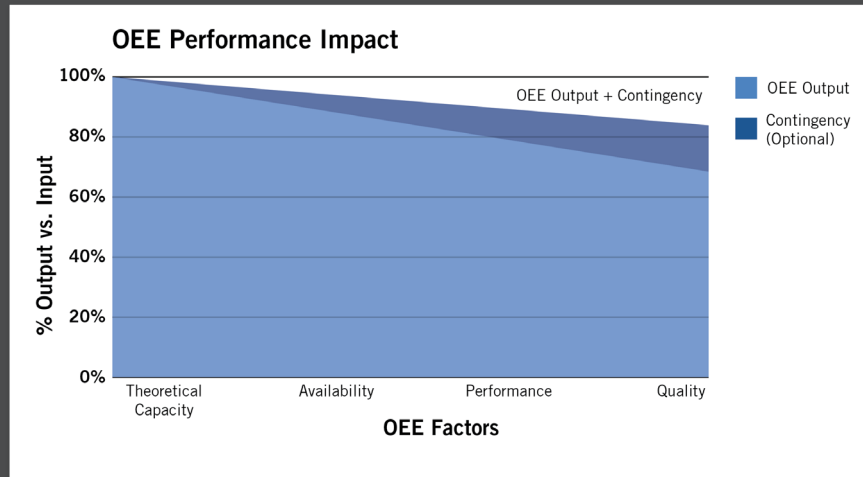

Figure 3 - Contingency
- $\text{OEE\% capacity} + \text{Contingency Capacity} = \text{Total Capacity}$ (Figure 3).